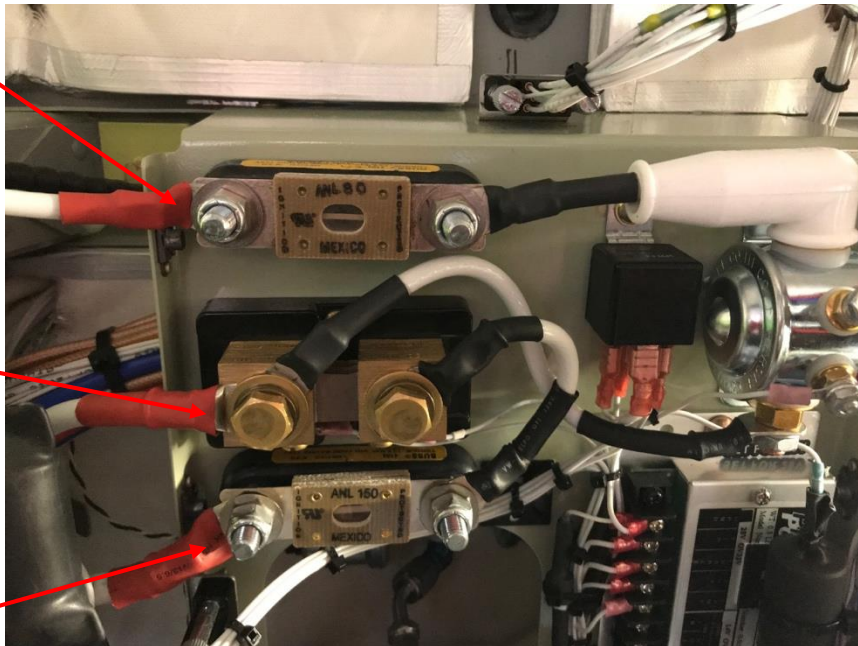

Figure 3 : View showing power wire attachment to Mission Power Control Unit.
- 1.4.7 Disconnect and remove the positive lead 2PB001A6 between the 70A circuit breaker and the Mission Power Control Unit (Refer to Figure 3). The Mission Power Control Unit is located on the aft side of the firewall, immediately behind the flight instrument panel.